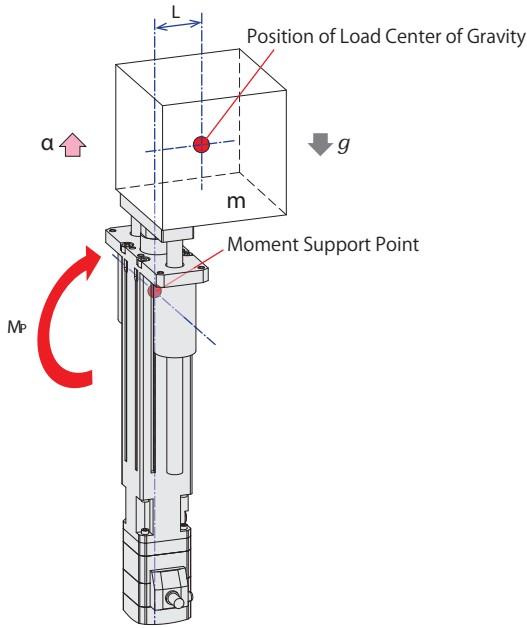

Figure 18 Example of Moments Applied When Installed Vertically
A calculation example of moment loads applied to a linear bush, when a cylinder with a guide transfers loads in the vertical direction, is shown below. The following are shown in Figure 18.
As shown in Figure 18, when indicating the pitching direction moment as  $M_p$ , which is applied to the vertically installed linear bush, it can be calculated with the following formula (6).
Next, with the cylinder with a shaft guide as shown in Figure 18, the home position is set when the rod is inserted all the way. Figure 19 shows the relationship between the positioning distance and the transportable mass when transferring the load in the horizontal direction.